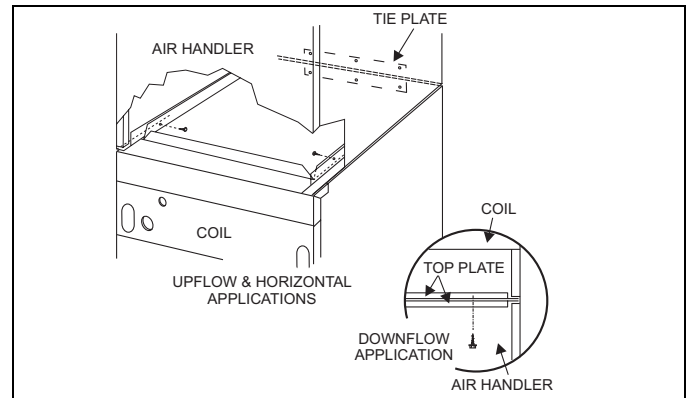

FIGURE 6: Tie Plate & Fastening Tabs
5. Fasten duct flanges of coil to duct flanges of air handler with screws. See Figure 6.